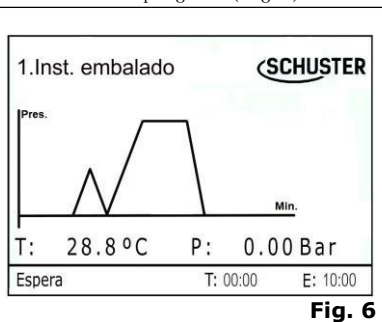

Fig. 6
- In the main screen (Fig.6), press the lower selection button  for 3 seconds to go to the cycle selection menu (Fig.7). In this screen you can choose one of the 6 available programs. Use the bottom selection buttons  or top selection  to navigate between options. Choose the cycle according to the type of sterilization. At the end, press the confirm / start button  to activate the chosen cycle. Press the confirm / start button  once more to start autoclave operation.
- To change the language of the equipment while in the first program screen (Fig.6), press and hold the upper selection button  to access the menu with the 3 available languages (Fig.8). Select the desired one with the selection buttons and confirm with the confirm / start button.